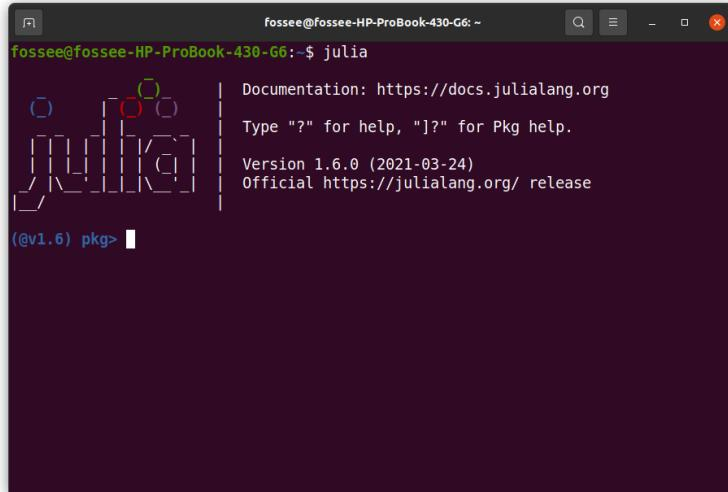

Figure 3.34: Linux terminal to enter Pkg REPL in Julia
2. From the Julia REPL, press ] to enter the Pkg REPL. The moment you press ], you enter Pkg REPL, as shown in Fig. 3.34.